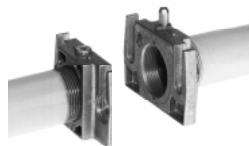

Fig. 6
1. Mount flange onto tube lines: use appropriate sealing agent (see Fig. 6);
2. insert MB-DLE: note position of O rings (see Fig. 6);